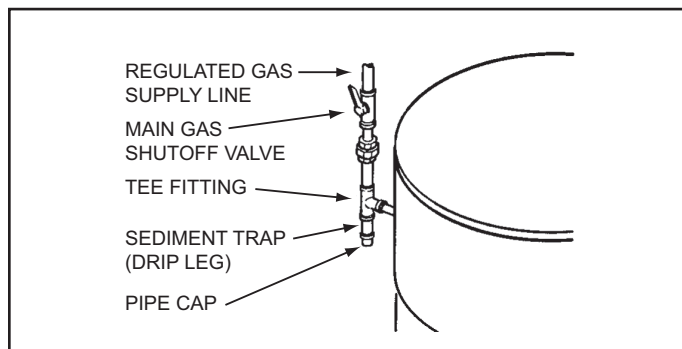

Figure 52
Ensure all gas pipe is clean on the inside before installation. To trap any dirt or foreign material in the gas supply line a sediment trap (drip leg) must be installed as shown in Figure 52. The sediment trap must be readily accessible and not subject to freezing conditions. Install in accordance with the recommendations of the local gas utility company.
7. Install a sediment trap (drip leg) as shown in Figure 52 on page 37.
8. Install a Main Gas Shutoff valve in the supply gas line as shown in Figure 52 on page 37.
1. For test pressures exceeding 1/2 psi (3.45 kPa) disconnect the water heater and its Main Gas Shutoff Valve from the gas supply piping system during testing, see Figure 52 on page 38. The gas supply line must be capped when disconnected from the water heater.